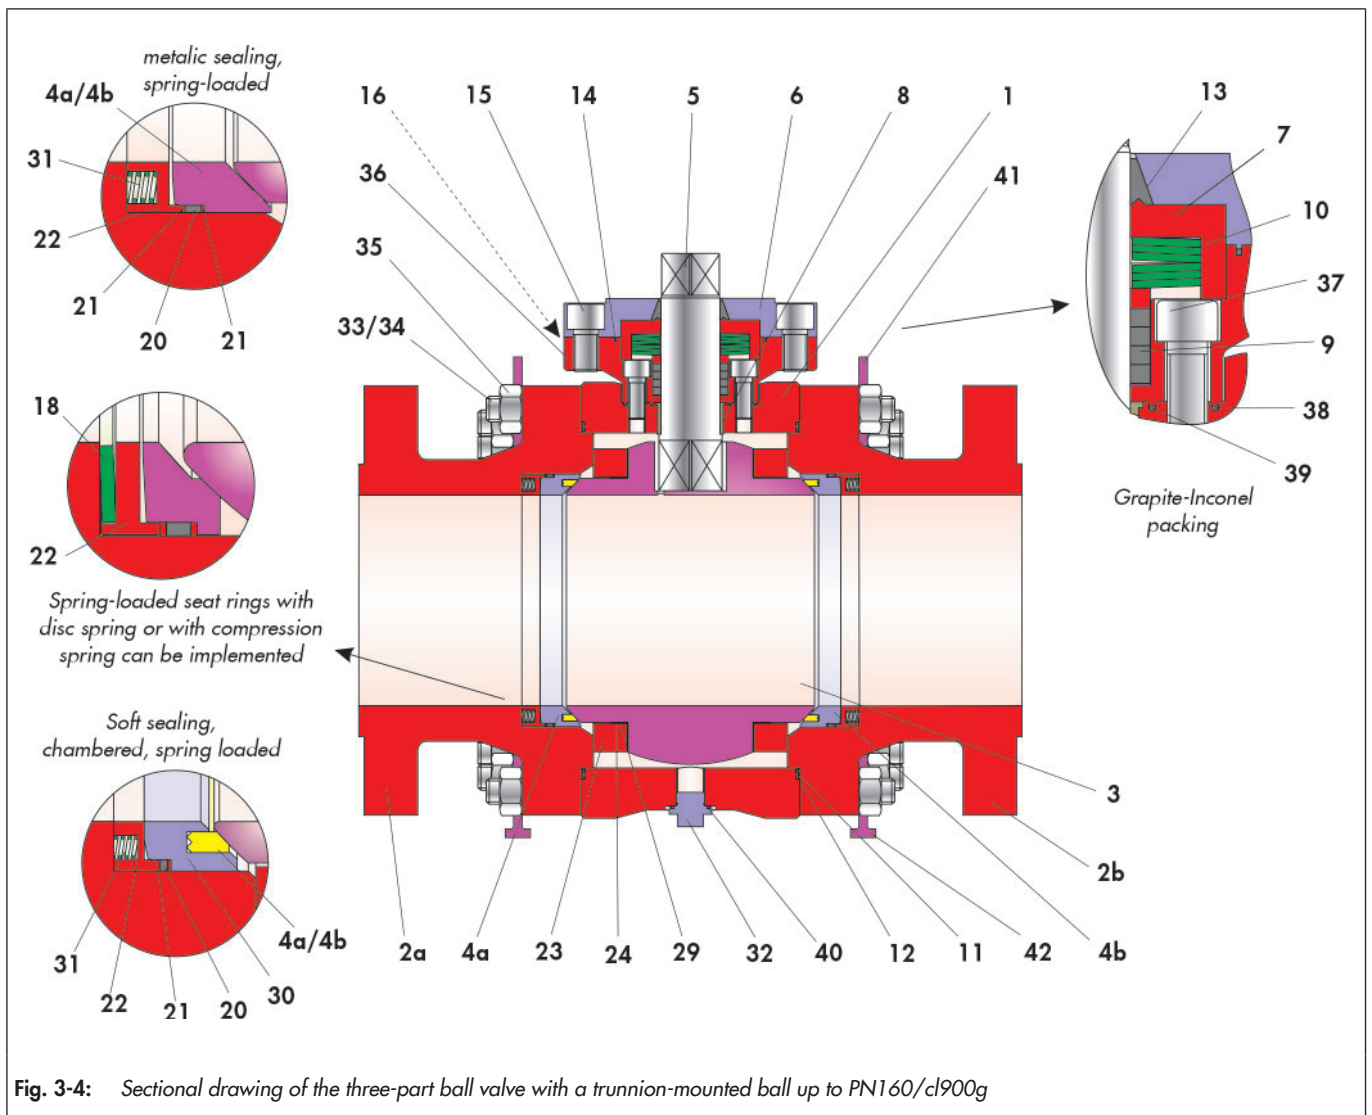

Fig. 3-4: Sectional drawing of the three-part ball valve with a trunnion-mounted ball up to PN160/cl900g
The position and arrangement of the individual parts shown in Fig. 3-4 must be observed during assembly.
- ⇒ Push the V-ring packing or graphite packing (9) with a slight rotation movement over the assembled control shaft (5) and insert it into the packing space of the bonnet flange (36). Arrangement of the V-rings see Fig. 3-4.
- ⇒ Place the set of disc springs (10) on the packing (9). Arrangement of the disc springs, see Fig. 3-4.
- ⇒ Push the bush (7) over the control shaft (5) such that they lie on the disc springs (10) and centre them.
- ⇒ Push the carbon-graphite ring (13) carefully over the control shaft (5) up to the bush (7).
- ⇒ Insert the carbon-graphite ring (14) into the groove of the stuffing box flange (6).
- ⇒ Place the stuffing box flange (6) over the control shaft (5) onto the main body (1).
- ⇒ Lightly grease the screws (15).
- ⇒ Adjust the stuffing box flange (6) with the screws (15).